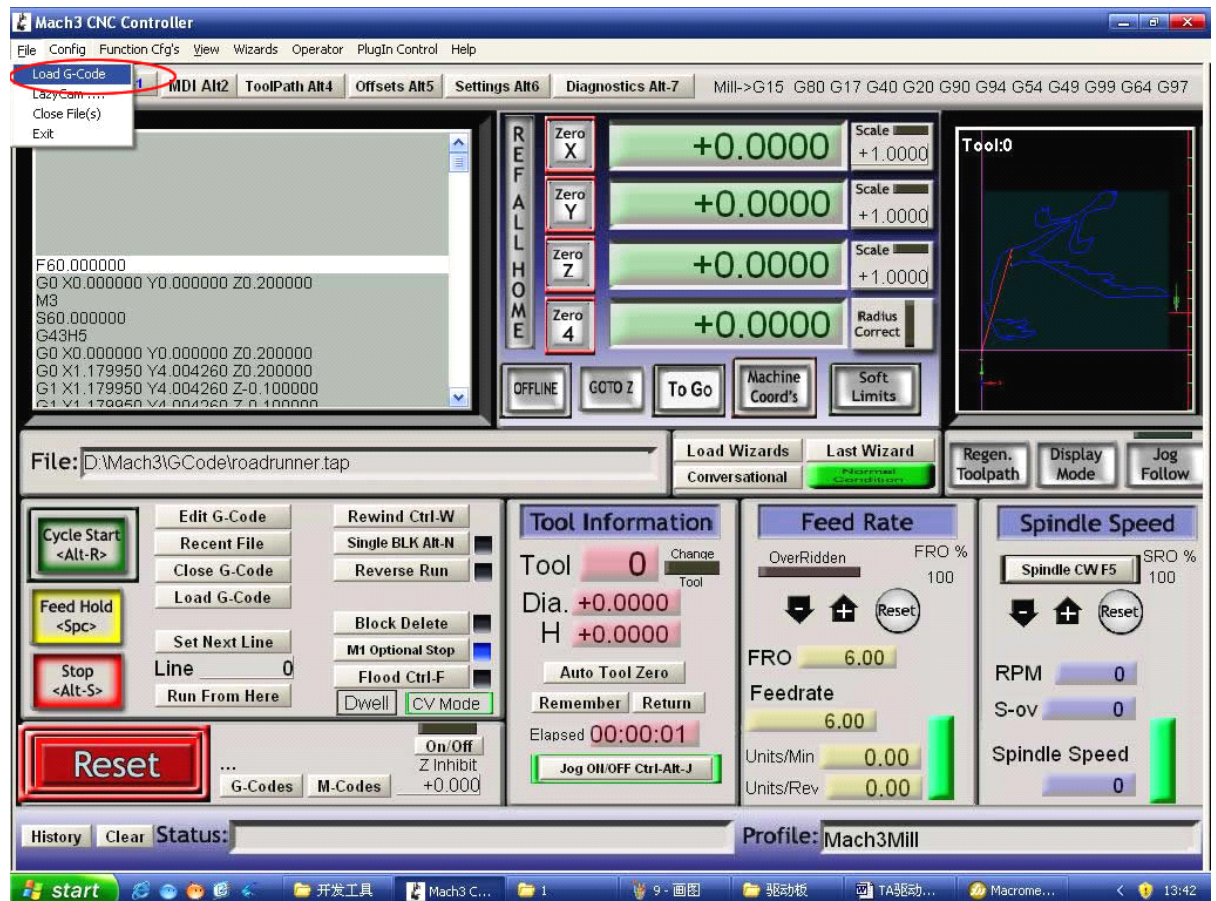

图 8 打开 G 文件
**G code is the instruction of CNC procedures,mach3 software self with G code for customer testing machine easier,click menu"File" as Fig 8.**